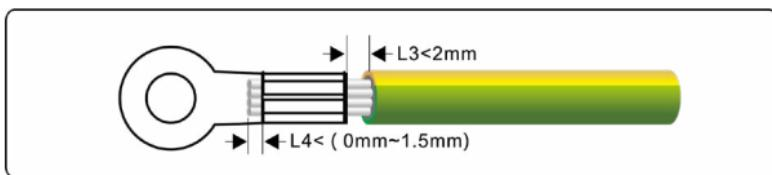

Figure 5.2 Crimping a cable (unit: mm)
**Step 2** Insert the exposed core wires into the crimping areas of the OT terminal and crimp them using hydraulic pliers, as shown in **Figure 5.2**.